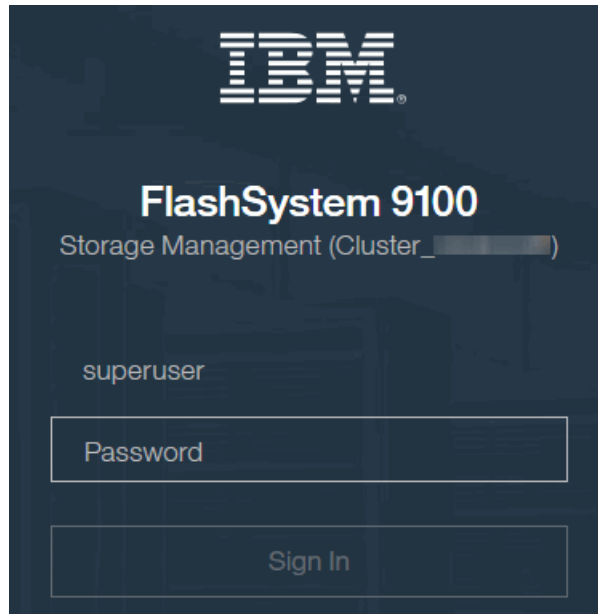

Figure 6-60 FlashSystem 9100 storage management login screen
2. The FlashSystem 9100 Storage Management login screen displays (Figure 6-60).